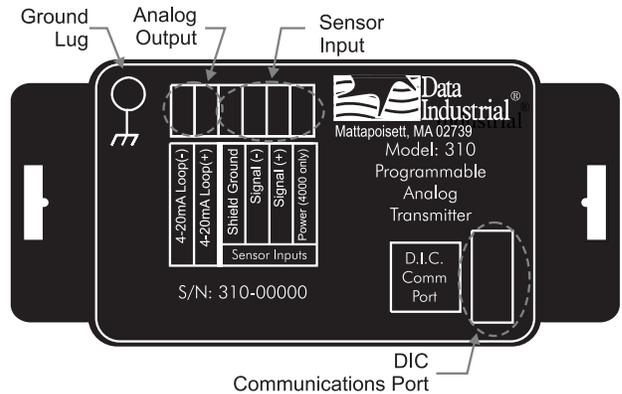

Figure 1: Model 310
1. Refer to Figure 1 for terminal connections.